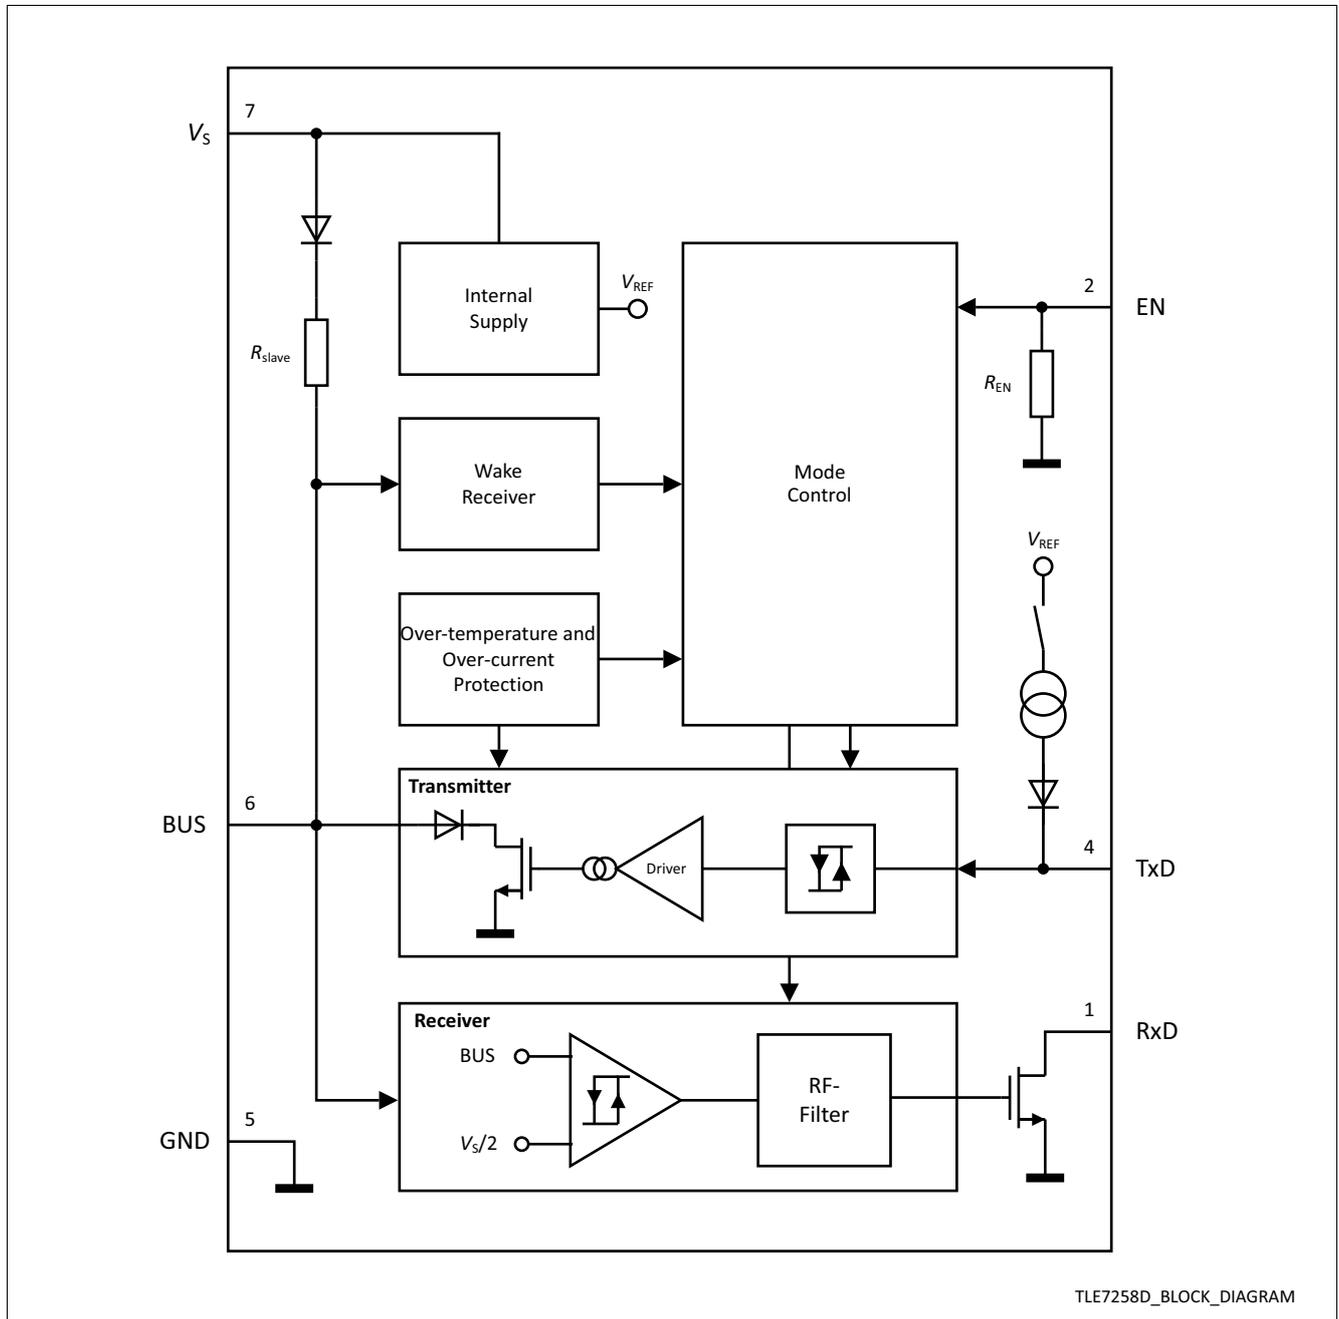

Figure 1 Block diagram
- 1) The TxD input is disabled in Sleep mode and the internal pull-up current source is switched off (see Figure 1).
- The BUS pin is terminated to V_S via the internal termination resistor R_{BUS} (see Figure 1).
- The BUS output is terminated to V_S via the internal termination resistor R_{BUS} (see Figure 1).